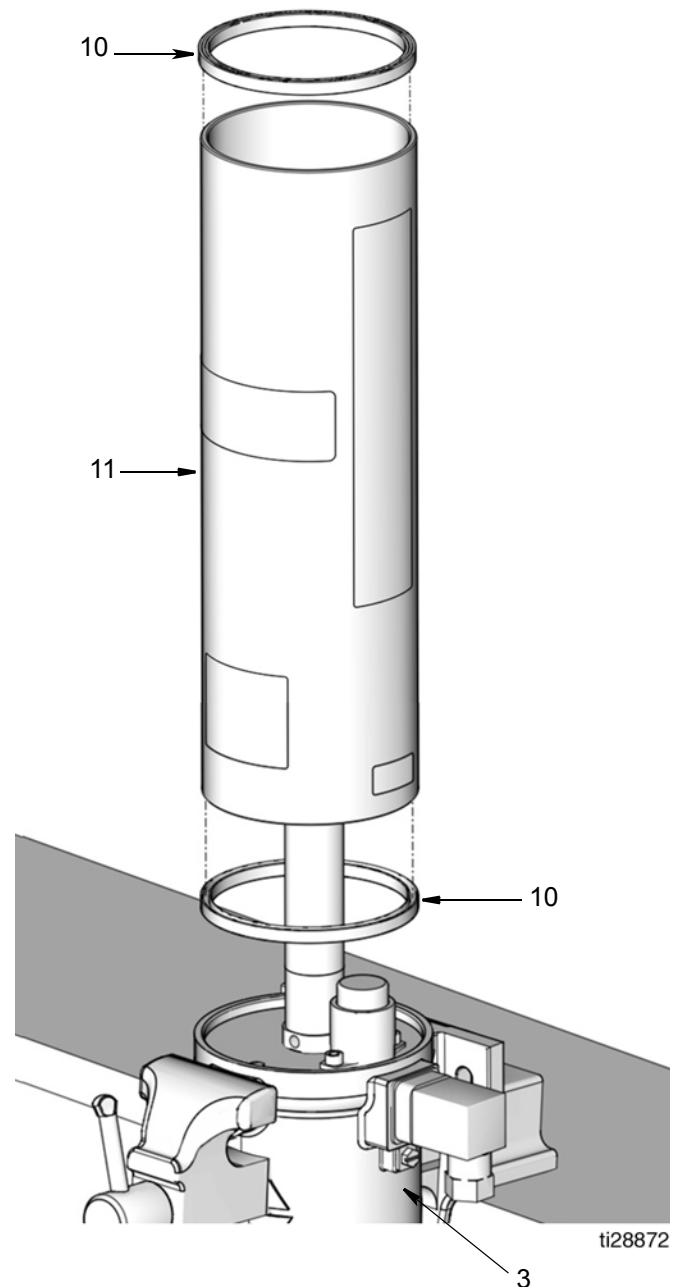

FIG. 40
19. Reservoir Gaskets (10)
Install reservoir gaskets (10) to top and bottom of reservoir (11) as shown in FIG. 40.
20. Install reservoir (11) in the air motor cylinder (3) (FIG. 40).